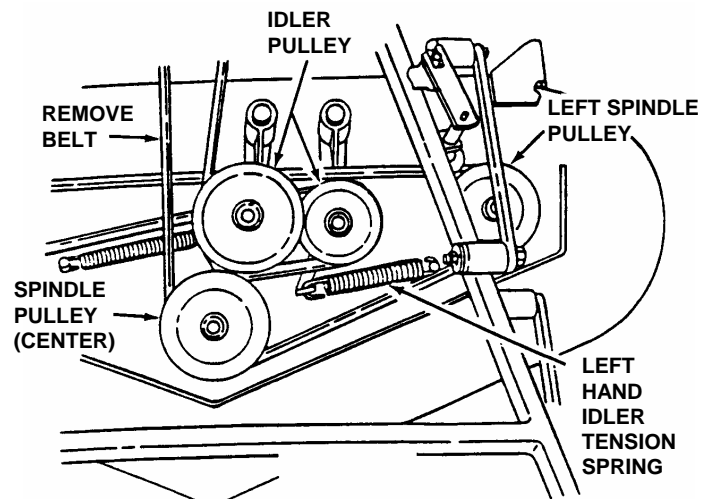

FIGURE 5.3
6. Remove old belt from left hand Spindle Pulley and center Pulley bottom groove. See Figure 5.3.
1. Route new belt for 48" cutting deck, 52" cutting deck, and 61" cutting decks, onto bottom groove of center Spindle Pulley and left hand Spindle Pulley. See Figure 5.3.